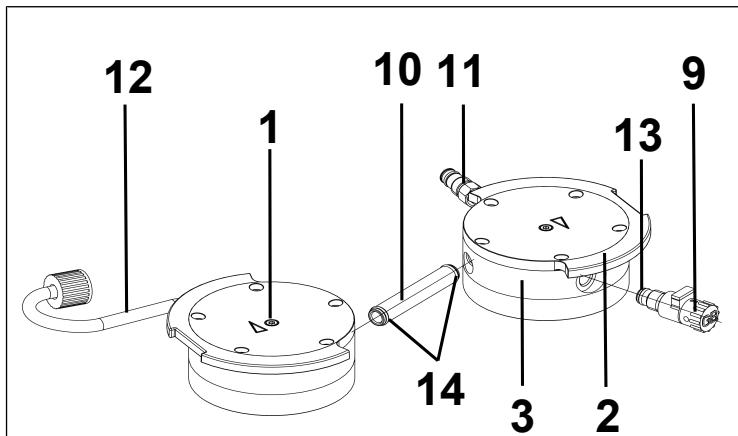

Fig. 14: Change O-rings
2. Pull the connection tube (10/Fig. 14) out of the head cover (3).
**i** The two hose connections (11) and (12) remain mounted in the head covers.
3. Replace the two O-rings (14) on the interconnection tube (10/Fig. 14).
6. Unscrew the gas ballast (**9**/Fig. 14) from the head cover (**3**).
7. Replace the O-ring (**13**) on the gas ballast (**9**/Fig. 14).
8. Screw the gas ballast (**9**/Fig. 14) into the corresponding head cover (**3**) as far as it will go. Then turn it back again until the surface is oriented upwards.
7. Insert the connection tube (**10**/Fig. 14) back into the head cover (**3**).